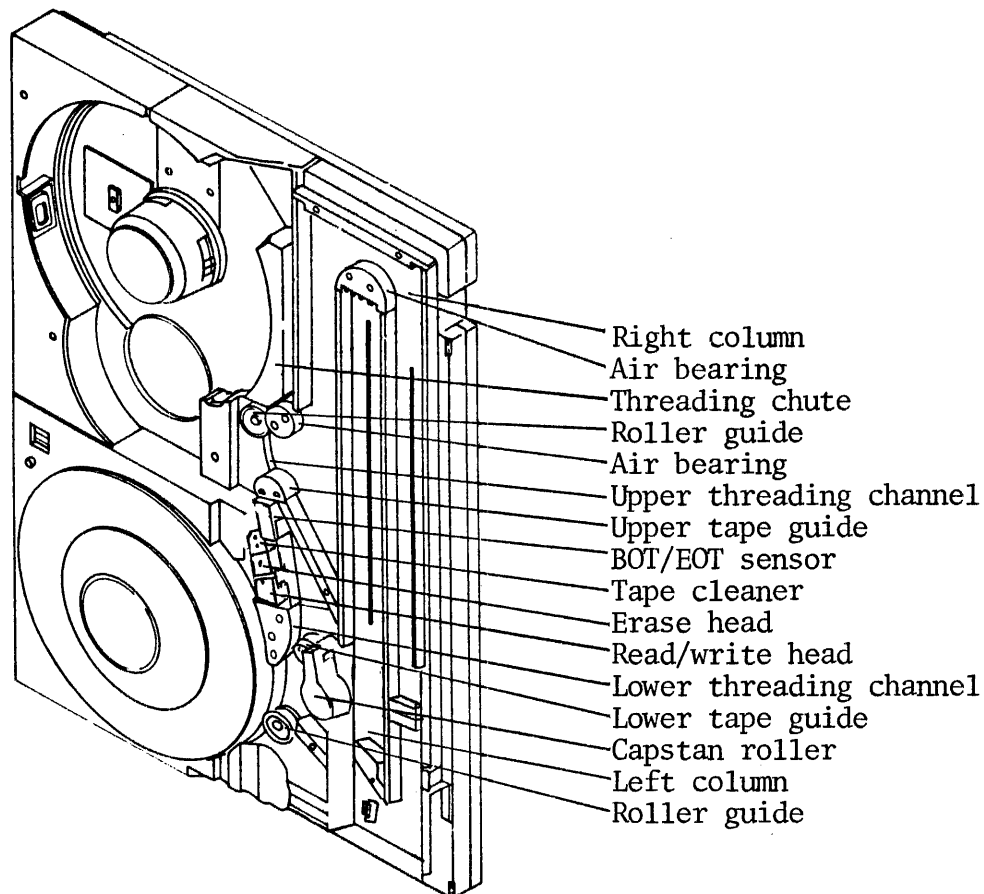

Figure 3-1. MTU components requiring cleaning.
This section contains instructions for MTU cleaning prior to system checkout. Use the cleaning agent (solvent) that is supplied with the cleaner kit (B960-0110-T016A). In general, never apply rough or abrasive material or hard tools, such as metal bars, when cleaning MTU components. Clean the surfaces shown in Figure 3-1 and listed below with a gauze cloth soaked in solvent.
- (1) Tape guide (upper and lower)
- (2) Air bearing (see two locations in Figure 3-1)
- (3) Threading chute
- (4) Roller guide
- (5) Upper threading channel
- (6) Lower threading channel
- (7) Column interior
- (8) Glass cover
- (9) Photo sensor (beginning of tape and end of tape sensor).